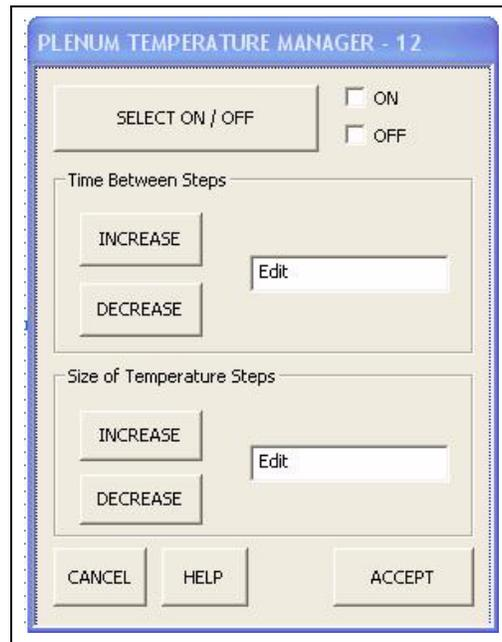

Figure 5J
4. **Plenum Temp Manager:** Plenum Temp Manager This will reduce the plenum temperature setpoint(s) if the unload rate reaches its maximum allowable value for the time specified by the “Time Between Steps” menu. Once the time has been exceeded, the dryer will reduce the temperature setpoint(s) by the value given in the “Size of Temperature Step”. If the unload rate falls below the maximum allowable value for the “Time Between Steps” period, the temperature setpoint(s) will be increased by the “Size of Temperature Steps” until the original setpoints are met. (See Figure 5J.)